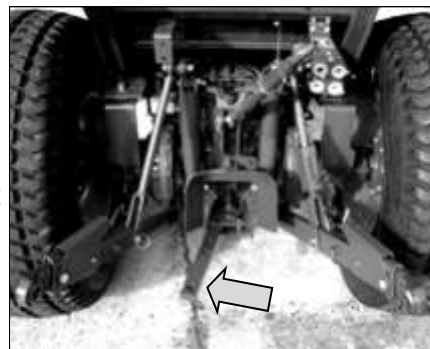

Fig. 3
1. The tractor must be fitted with a drawbar or other standard tow hitch. If the drawbar is positioned to one side of the PTO output shaft the mower may contact the tractor tyre on that side when turning sharply (Fig. 3).